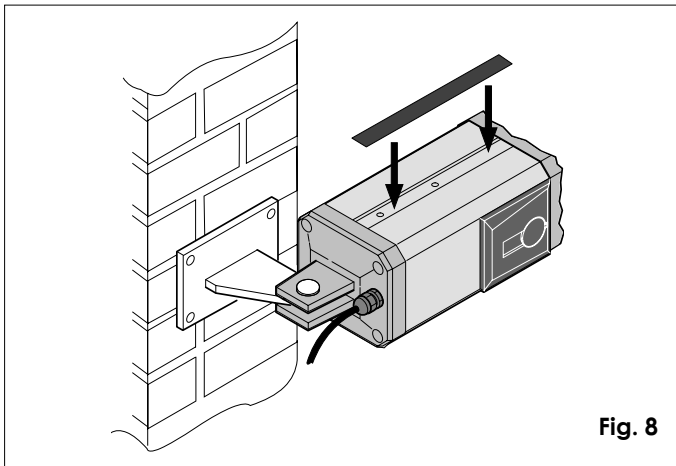

Fig. 8
- 13) Attach the metal tag to the slot in the top section of the motor in order to blank off the holes present as shown fig.8. On the other hand, do not block the holes to be found in the lower section.